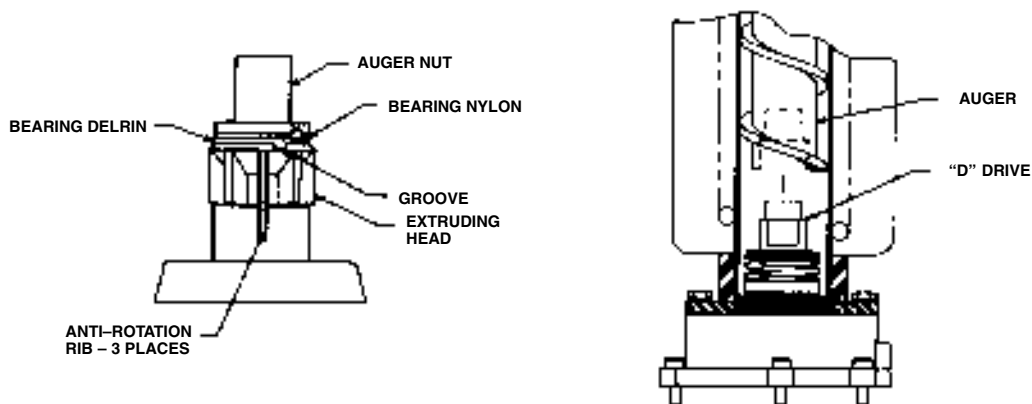

FIGURE 8. AUGER AND EXTRUDING HEAD REMOVAL
5. When replacing the auger assembly, make certain that both the auger engages the output shaft drive and the extruding head ribs engage the evaporator tube. (See Figures 8)